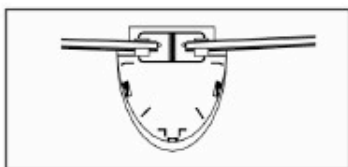

Fig. 34
- B) In most size pools, the four 39" bottom wall rims are for the "corners." One side snaps into the straight side connector on the final straight side upright, while the other side slides into a bottom plate or bottom cuff as shown in Fig.33 or Fig.34.